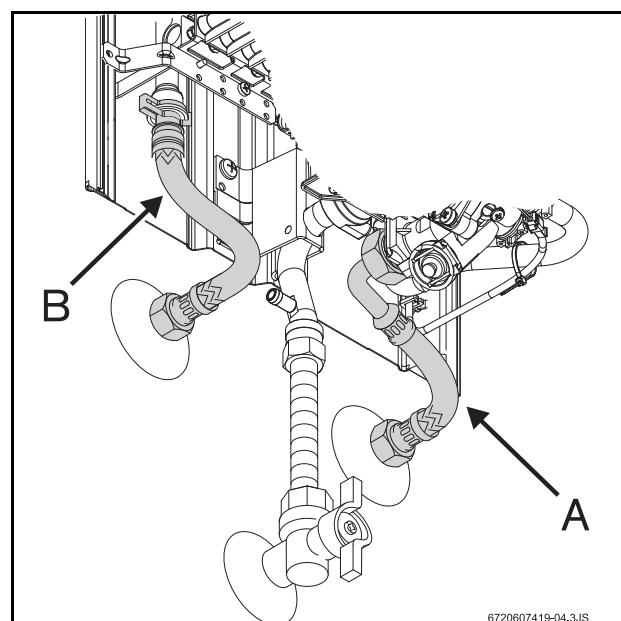

Fig. 5 Water connection
- ▶ Identify the cold water pipe (Fig. 5, item A) and the hot water pipe (Fig. 5, item B), so as to avoid any possible mis-connection.